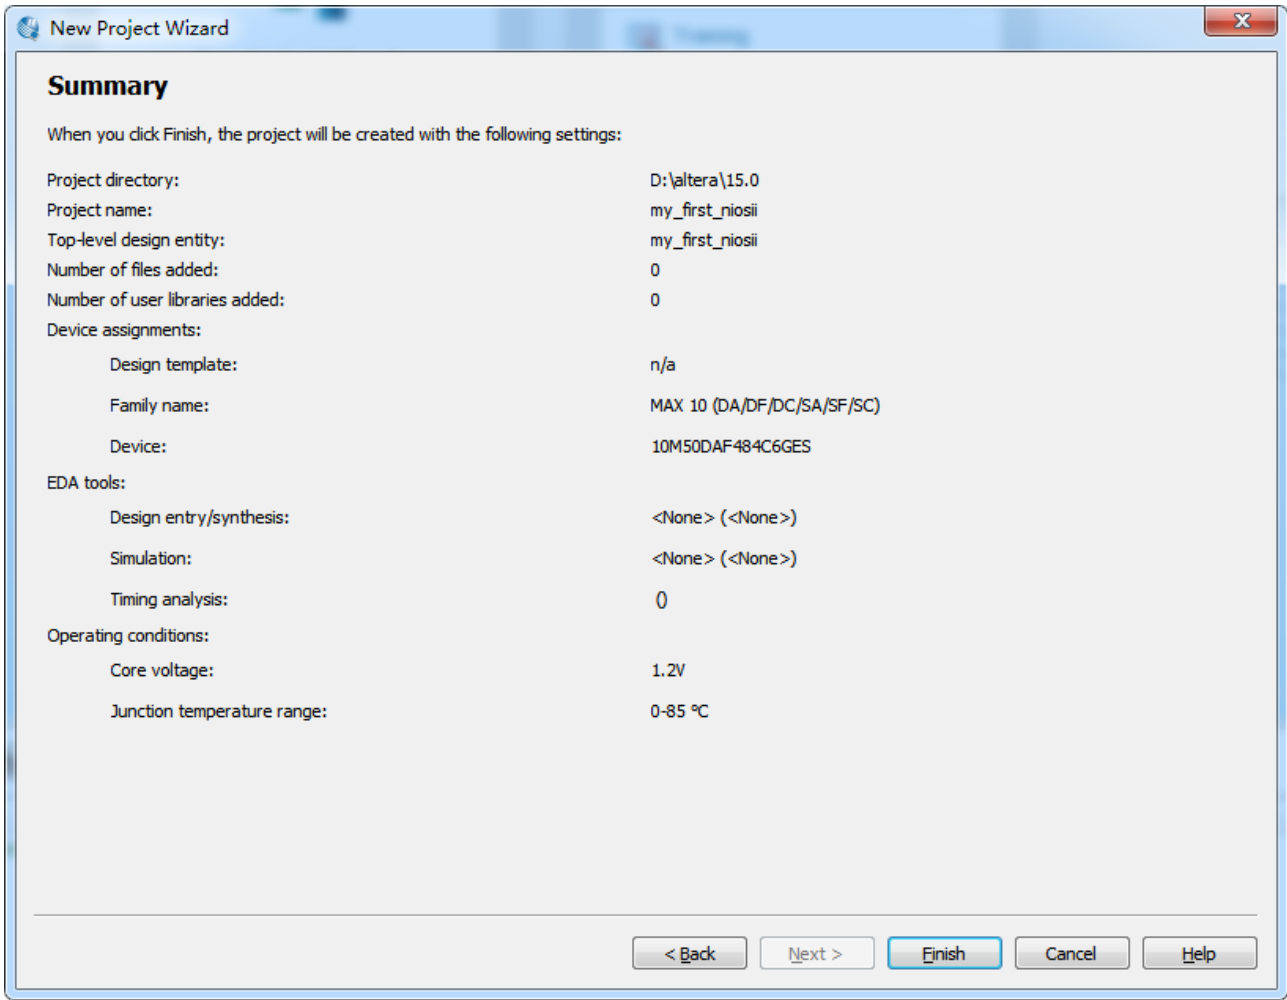
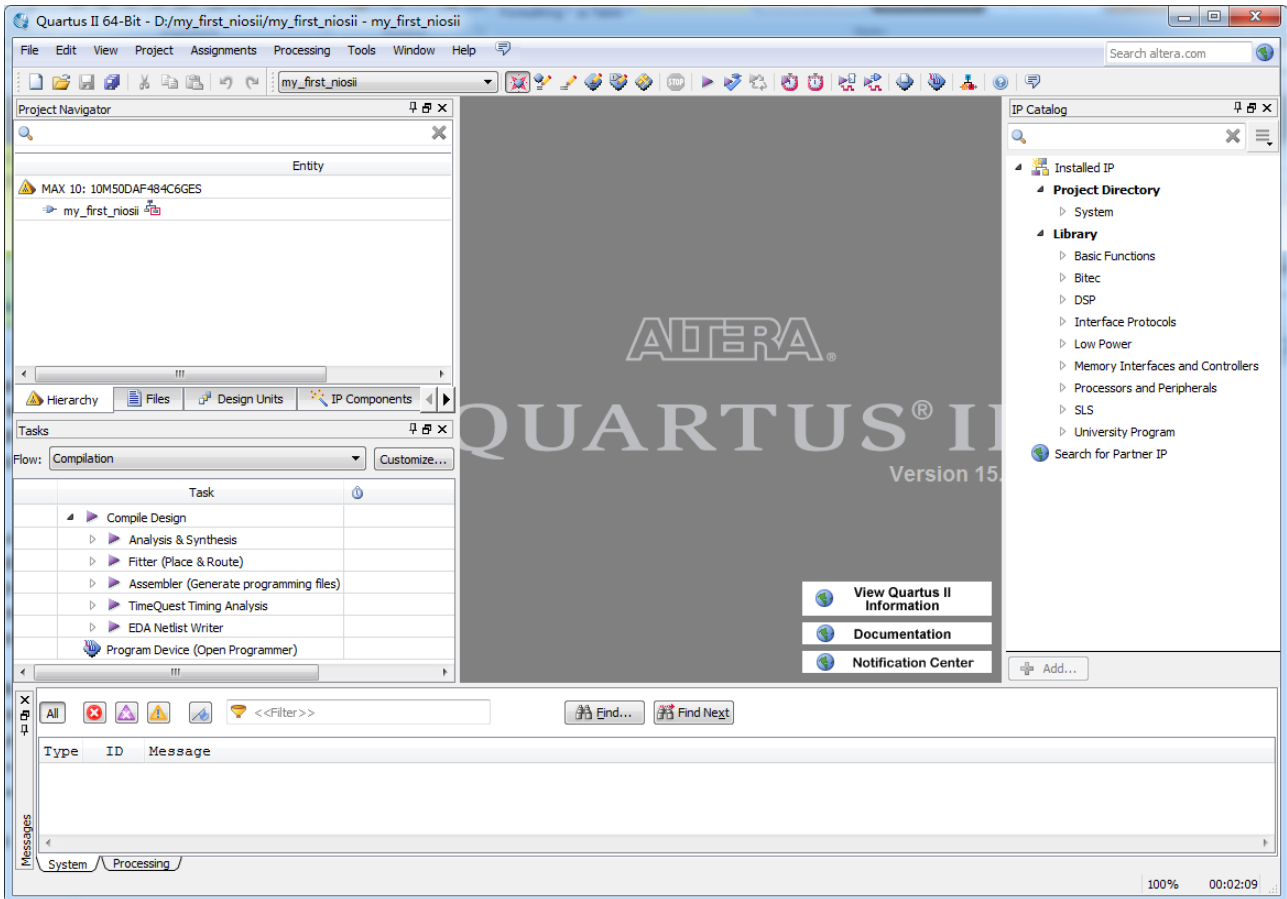

Figure 1-7 Summary of the new project
Figure 1-8 The new project in Quartus II
4. Click **Next** and a summary about the project which has just been created is shown in **Figure 1-7**. Click **Finish** to complete the creation of a new project, as shown in **Figure 1-8**.